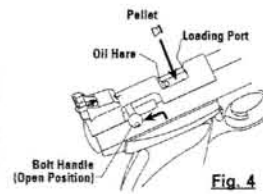
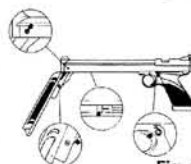

Fig. 4
Fig. 8
- Push bolt handle up and pull all the way back until you hear two clicks. (Fig. 4)
- With the bolt in the rearward position, place one pellet, nose first, into the loading port (breach). (Fig. 4) This is a single shot pellet airgun. Load no more than one pellet at a time.
- Your airgun will work best if you oil it every 250 shots. Put 2 or 3 drops of Crosman 0241 Lubricating Oil on the pump pivot pins, the trigger, the pump cup in the pump mechanism (Fig. 8) and the o-ring on the bolt. (See Fig. 4) A little oil on the outside of the barrel helps prevent rust. Crosman 0241 Lubricating Oil is best, but any light household oil is better than none. DO NOT over-oil as this can cause damage to your airgun.